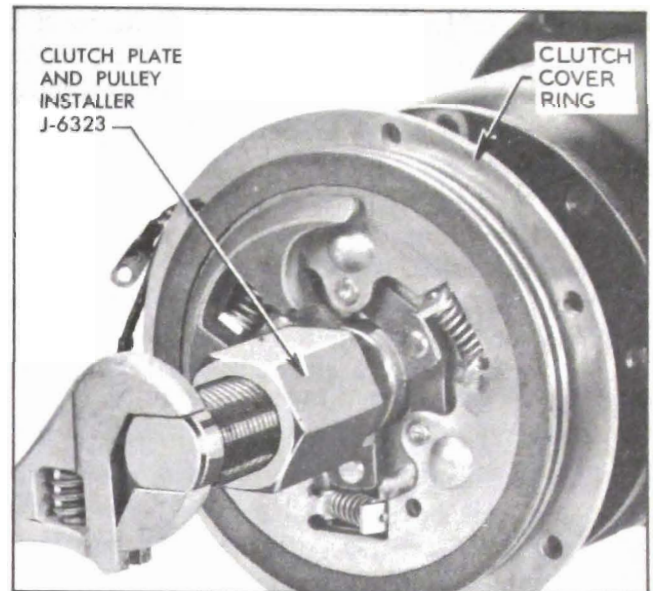

Figure 11-51—Installing Clutch Plates
14. The clutch plate assembly is now ready to be pressed on the shaft, using Tool J-6323. See figure 11-51.